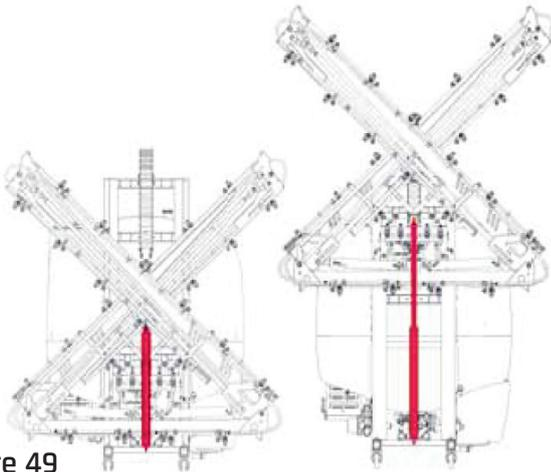
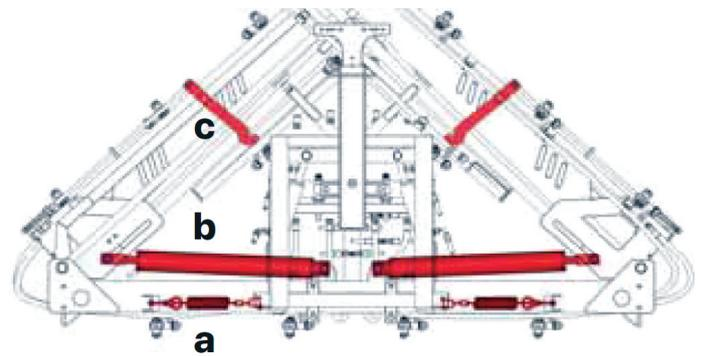
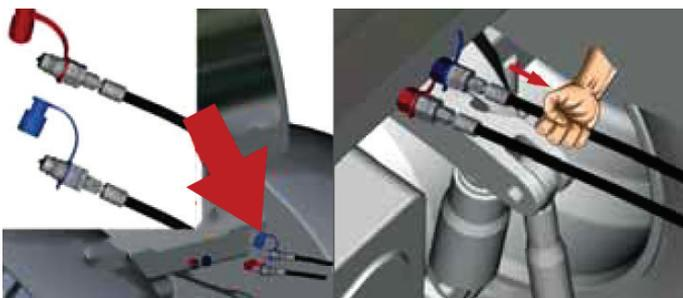

Figure 49
Figure 51
Figure 50
6. In Hawk machine it can adjustment boom position in height with hydraulic pistons (Figure 49). For adjustment boom height connect hoses to tractor correct way (Figure 50)
Pay attention that the locking system are active of the end booms when the booms are in the fully closed position, if the locks are not active, do not move the machine in any case without fixing the arms. (Figure 51) (c=lock system)
7. In HAWK Series machines, the spraying boom open-close system is controlled by hydraulic cylinders (Figure 51). Correctly connect the hoses which comes from the hydraulic cylinders to the tractor for open-close the boom (Figure 50). Completely closed booms has been shown in Figure 52A. Using the machine only when the booms are in fully open position ( Figure 52C). Do not use the machine when the booms are half-open position (Figure 52B).